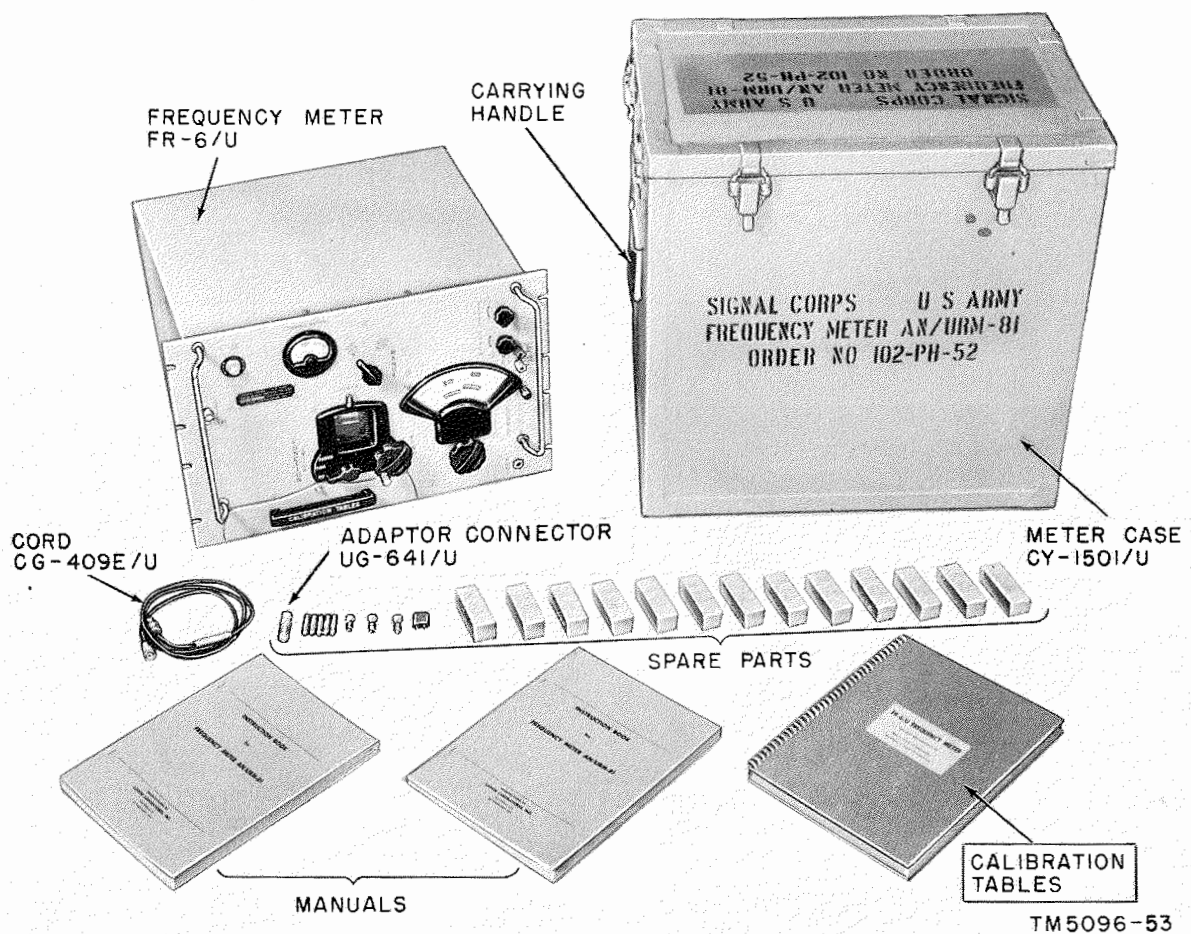

Figure 2. Frequency Meter AN/URM-81, components.
(fig. 2)
b. Meter Case CY-1501/U (fig. 3). The components of Frequency Meter AN/URM-81 are housed in Meter Case CY-1501/U. This case may be used for storage and transportation. The case is a metal-clad wooden case with a removable top. The top is fastened down by latches on the four sides. When placed inside the case, the frequency meter is secured by bumpers to prevent damage from shock and vibration. Carrying handles on the sides of the case (fig. 2) provide easy handling. A separate compartment inside the case cover contains the running spares, manuals, and Cord CG-409E/U.
ment (fig. 2). The No. 6 screws, and alignment frequency located in filmstrip a master
Following is a list of running spares for the frequency meter (fig. 2). These items are stored in the cover of the equipment (fig. 3).